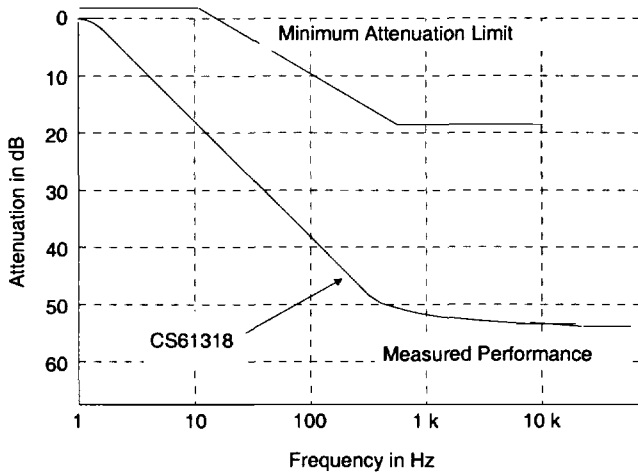

Figure 8. Typical Jitter Transfer Function
15. Jitter tolerance for 0 dB input signal level. Jitter tolerance increases at lower frequencies. See Figure 8.
The jitter attenuator’s corner frequency is approximately 1.25 Hz in order to comply with ETSI 300 011, CTR12, and recommendation I.431. A typical jitter attenuation graph is shown in Figure 8.